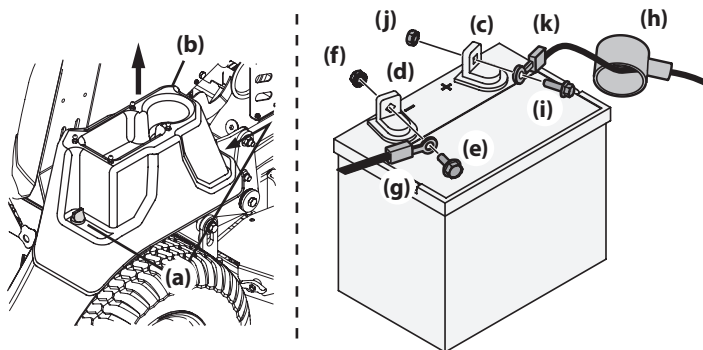

Figure 19
1. Remove the two thumb screws (a) securing the battery cover (b) to the right fender and remove the battery cover. See Figure 19.